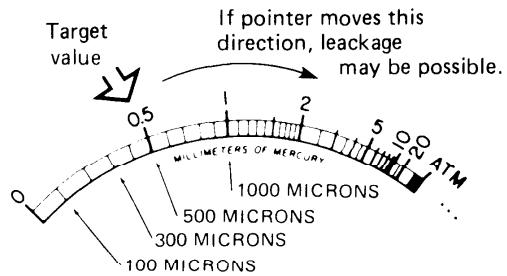

Fig. D-18
- 8) Keep this condition at least 5 minutes and observe the vacuum gauge for change. Fig. D-18. If pointer on the gauge moves to larger numbers, check system for leaks again according to the procedure in section 6-9-2. Page 74.